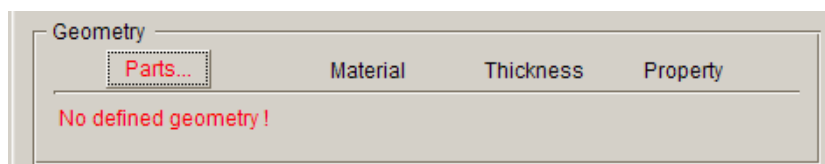

Figure 68: Geometry field
2. Click **Parts...** button from **Geometry** field in **Blank** definition page (shown in Figure 68).